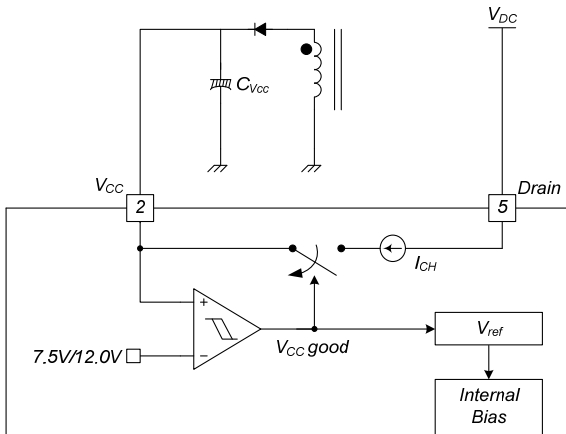

Figure 17. Startup Block
**1. Startup:** At startup, an internal high-voltage current source supplies the internal bias and charges the external capacitor ( $C_{VCC}$ ) connected to the  $V_{CC}$  pin, as illustrated in Figure 17. When  $V_{CC}$  reaches 12V, the FSD156MRBN begins switching and the internal high-voltage current source is disabled. Normal switching operation continues and the power is supplied from the auxiliary transformer winding unless  $V_{CC}$  goes below the stop voltage of 7.5V.